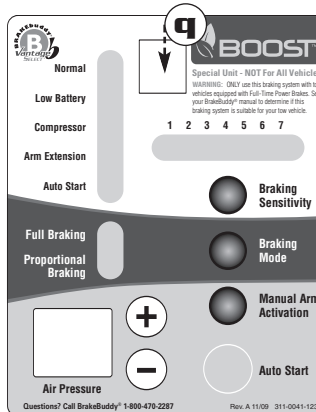

FIG. 9
- Install the BrakeBuddy® in your towed vehicle and plug the junction box wire harness into the receptacle on top of the BrakeBuddy® (Fig. 9 / **q**).